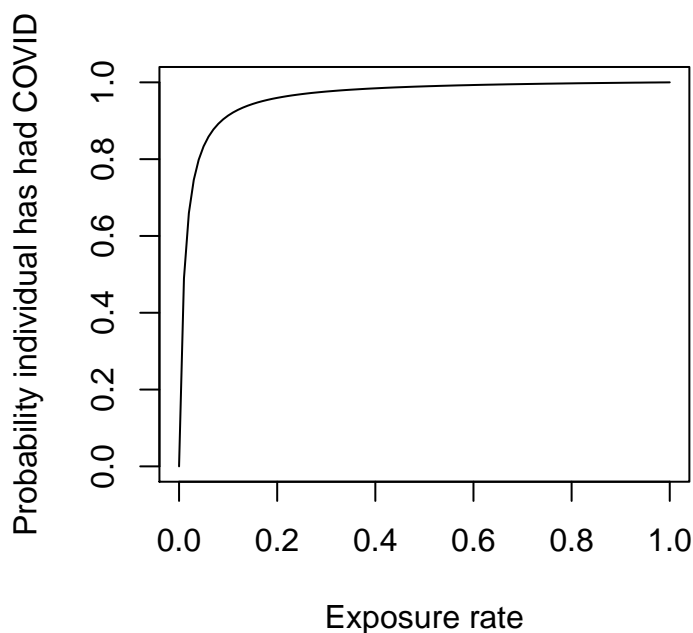

Figure 1: Probability that a person is positive for COVID-19 with varying exposure rates
3. Clearly the probability is vastly different depending on the exposure rate in 1. and 2. So estimating the true exposure rate is vital for determining the reliability of the test. At low exposure rates, the relatively high false positive rate and the very high number of healthy individuals drives the equation. The  $P(A|\bar{C})P(\bar{C})$  term is much larger than the  $P(A|C)P(C)$  term. However as the exposure rate increases, this term decreases rapidly, and the expression relies on the high true positive rate as the driving factor. Figure 1 shows that the probability that an individual has had COVID (reliability of the test) varies sharply with the exposure rate. So a small change in exposure rate can drastically change the probability that a positive individual has had COVID.